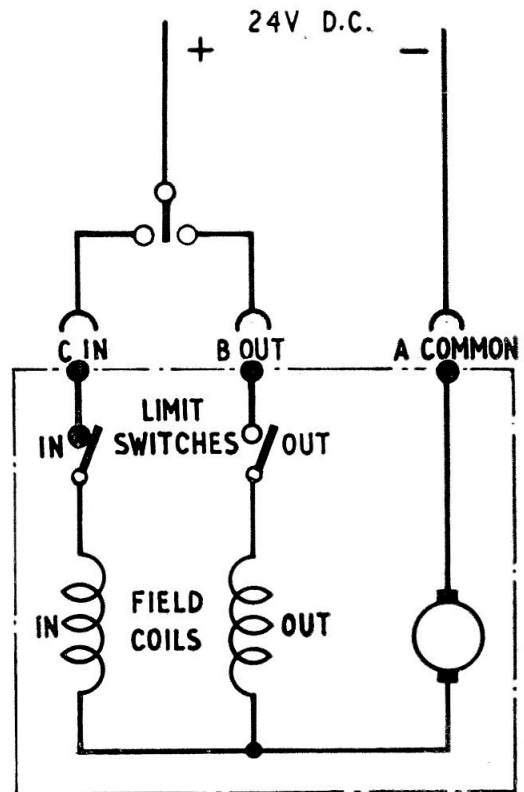

Fig. 2. Internal wiring diagram
7. The internal wiring (fig. 2) of the actuator is brought out to a 3-pole Breeze plug mounted on a boss on the motor housing.